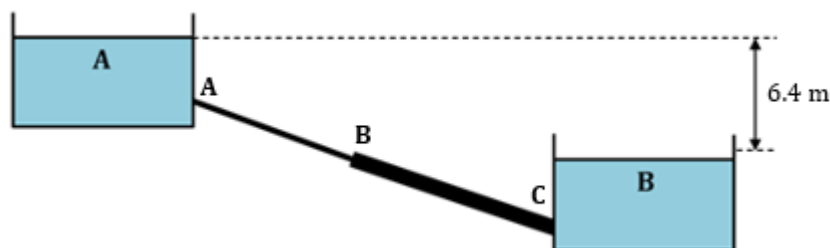

Figure 2
16. Two reservoirs are connected by series of line as shown in figure 2. Calculate the flow rate (L/s) in the pipe the following data is given. Neglect all minor losses.